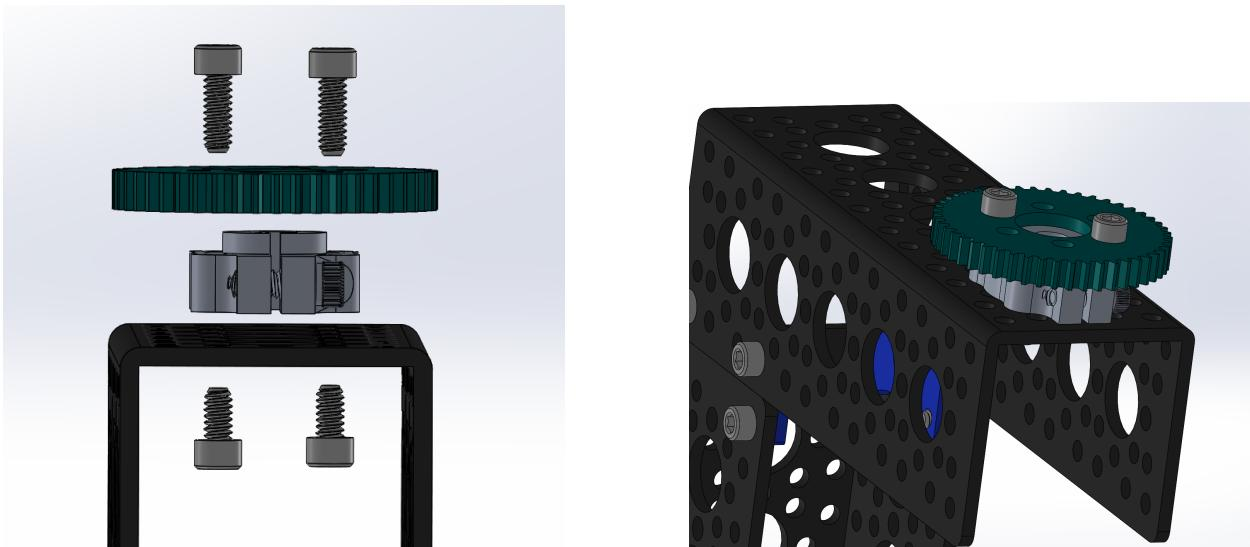

Figure 6: Corner Wheel Step 3
2. **Preparing the 4.5 inch Channels - D-Clamping Hub Attachment:** Attach the 0.25 Inch clamping hub **S12** and the plane bore gear **S26** to the channel using screws **B3** from the top and **B1** from the bottom as shown in Figure 6.